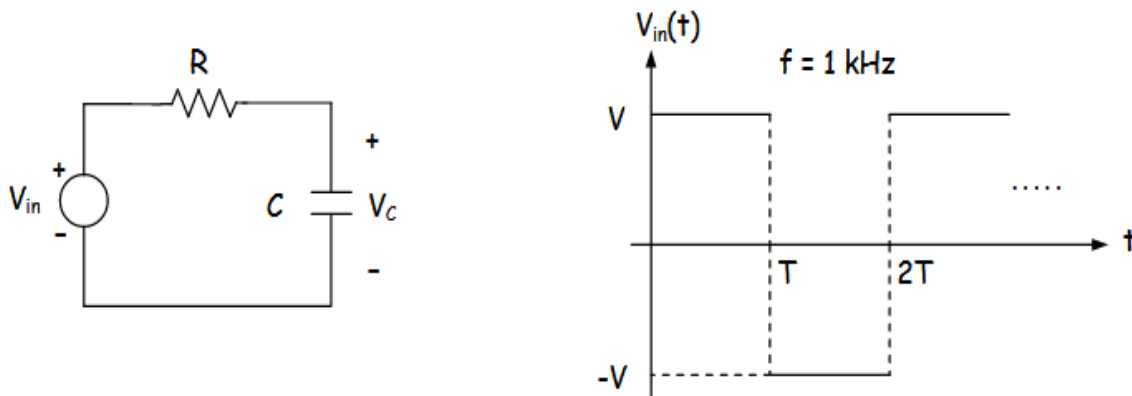

Figure 1.
1. In the circuit shown in Figure 1, find the resistance values R for $T=10\tau$, $T=\tau$, and $T=\tau/10$ where τ is the time constant. (A capacitor value of $C=100$ nF will be used.)